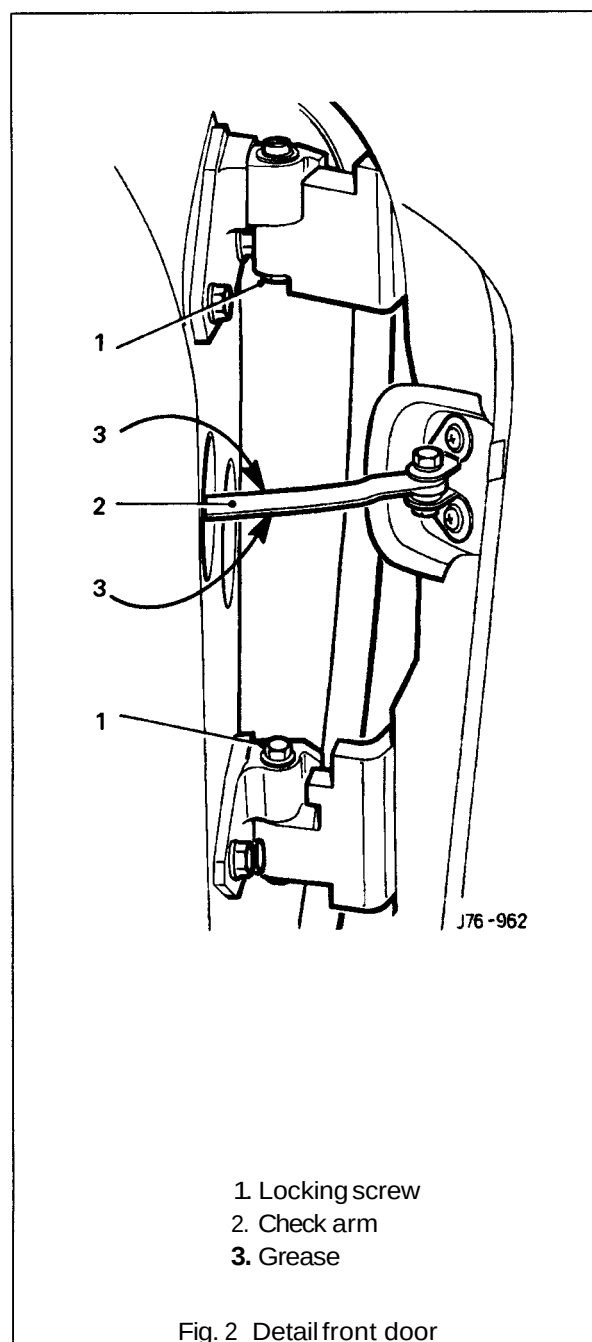

Fig. 2 Detail front door
- Remove locking screws Fig. 2.
- Disconnect check-arm fixings at the body Fig. 2.
- Apply grease to the check-arm 3 Fig. 2